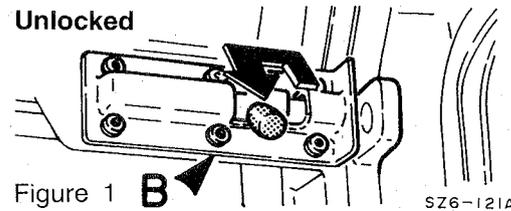

Figure 1 B
1. Unlock the two locks "B" at the top of the front window on either side. (Refer to Figure 1.)